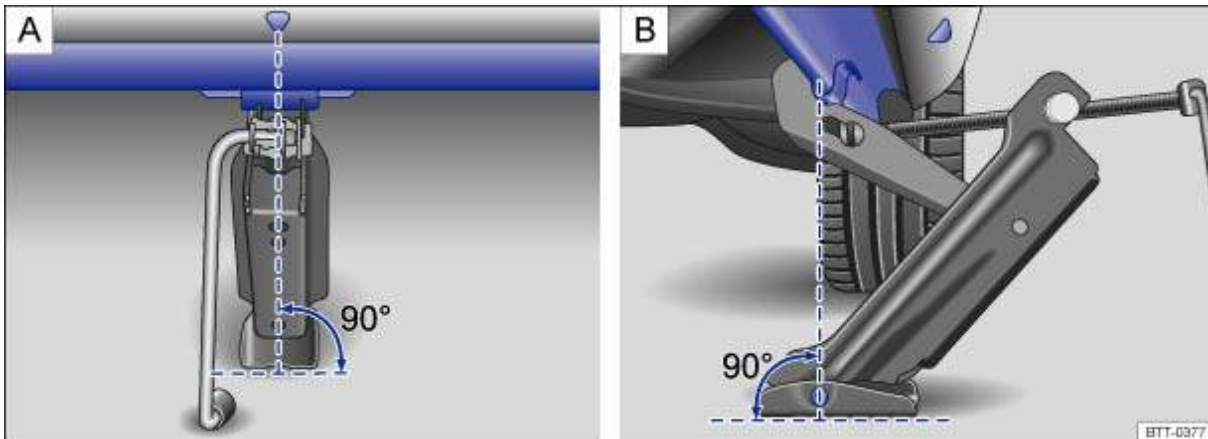

Fig. 198 Vehicle jack at the rear left-hand side of the vehicle
- Fit the vehicle jack only at the points described. The vehicle jack claw must grip the vertical rib under the door sill securely → *Fig. 198*.